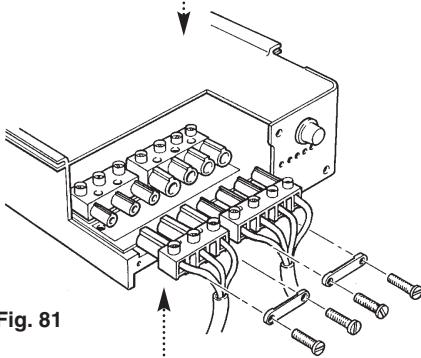

Fig. 81
7. Clamp the cables in the grips provided. Ensure that the lengths of the supply cables are such that the current carrying wires become taut before the earth wires if the cable should pull out of the cable clamp (Fig. 81).